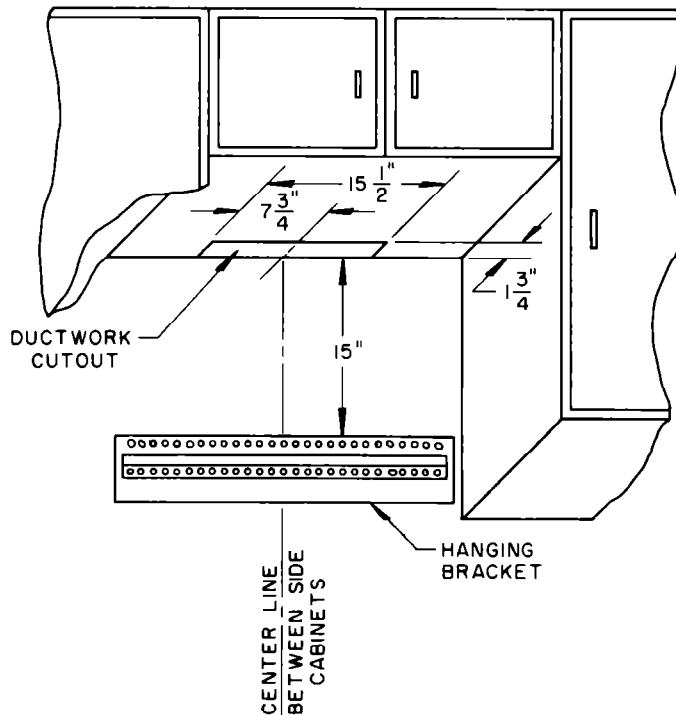

Figure 6
12. The hole in the bottom of the cabinet (for the duct provided with the hood) should be cut as shown in Figure 6 (15 1/2" long by 1 3/4" deep). Hole must be cut to back wall. Make sure to center the hole within the 30" allotted space.